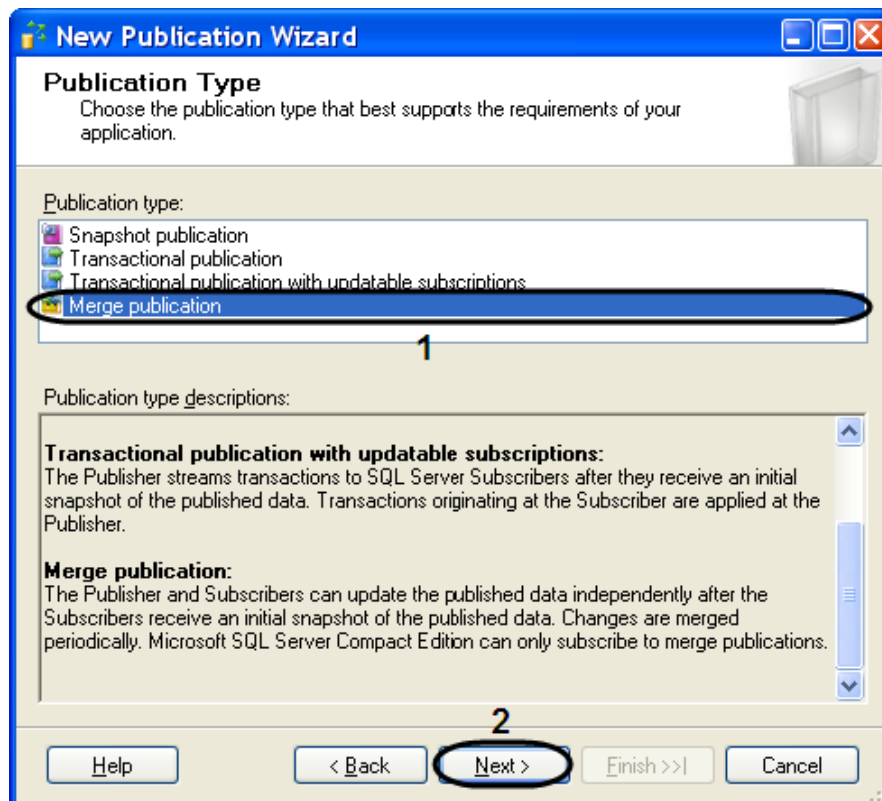

Fig. 9.3—5 Publication type selection
- 10.5. State the subscriber type, setting the «Sql Server 2008» checkbox (Fig. 9.3—6, 1).